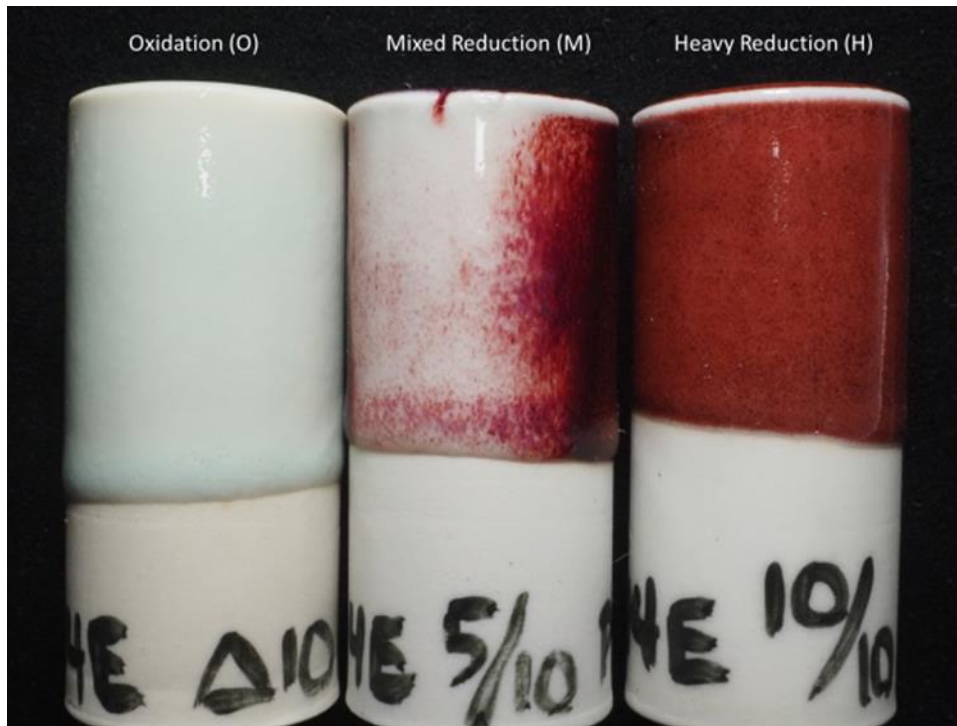

Figure 2: Results of Jeff's Red Flambé glaze. O=Oxidation, M=Mixed (Uneven) Reduction, H=Heavy Reduction
Results of Jeff's Red Flambé glaze: The next of the three glazes to react during firing is Jeff's Red Flambé glaze. The Gerstley borate content and low alumina levels lower the maturation temperature of this glaze. Test tiles fired under oxidation and reduction conditions are shown in figure 2. The red color in this glaze originates from small amounts of copper carbonate and tin oxide in the glaze. The brightness of this color was originally thought to result from the scattering of colloidal metal (Cu) precipitates forming in the glass during reduction firing. More recently, it's been reported to result from a charge transfer mechanism between O^{2-} and Cu^{+1} in cuprous oxide (Cu_2O) [4]. Higher levels of copper carbonate additions to this glaze can shift the color significantly and introduce a degree of muddiness, suggesting that multiple color-generating mechanisms are likely present. In oxidation the glaze color is light green. Uneven reduction (M) shows evidence of both of these colors. Refiring the tile on the right in cone 11 oxidation produces a color mix similar to the tile in the middle, but with the additional light green areas in a 3/8-inch band around the top and protruding slightly through the red-colored area.